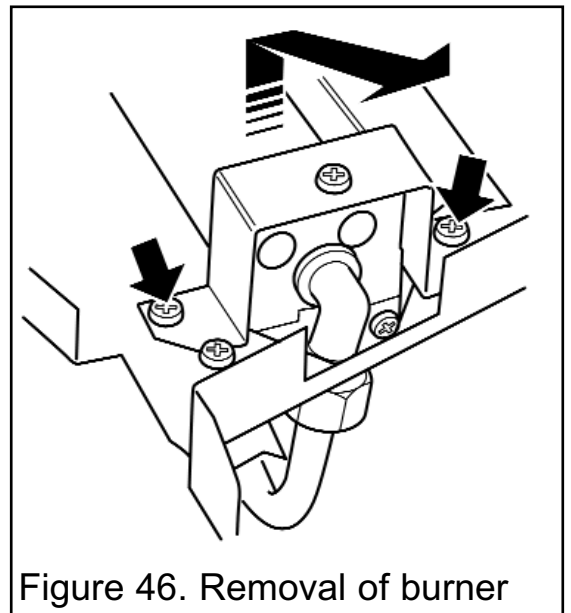

Figure 46. Removal of burner
(See figure 46).
3. Remove the two screws from the burner clamping plate (See figure 46)